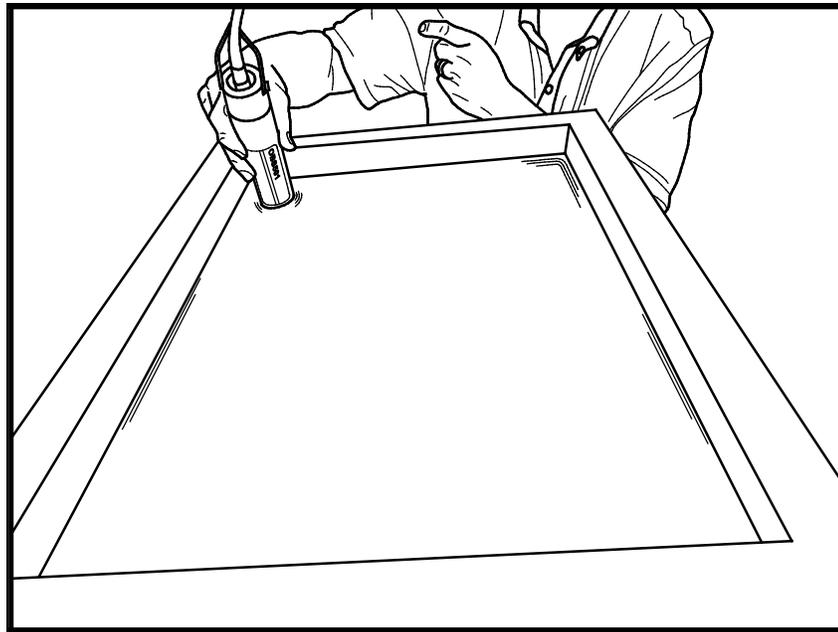

FIGURE 8-3. Position of OBS501 in clean tap water in big black tub
1. Swab sensor with an alcohol-soaked towel to sterilize it. Position the OBS sensor in a large, black tub of fresh tap water as shown in FIGURE 8-3 and record a 10 s average of the low-range output. Record the average output on the calibration log sheet.
1. Record and log the clean-water signal as in Step 1, Section 8.6.1, *Turbidity* (p.24); see FIGURE 8-3, *Position of OBS501 in clean tap water in big black tub* (p. 26). Use the same value, such as, sidescatter, backscatter, or ratio throughout the calibration.